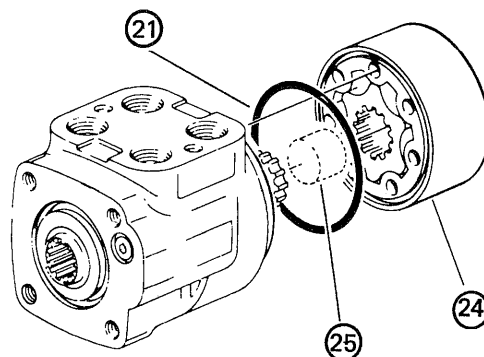

Fig. 128
- (5) Separate rotor assembly (24) being careful not to drop star (star-shaped splined rotor) (Fig. 128)
- (6) Remove O-ring (21) from rotor set (24) (Fig. 128)
- (7) Remove spacer (25) (not used for model B – oil flow 73 cc/rev.) (Fig. 128)